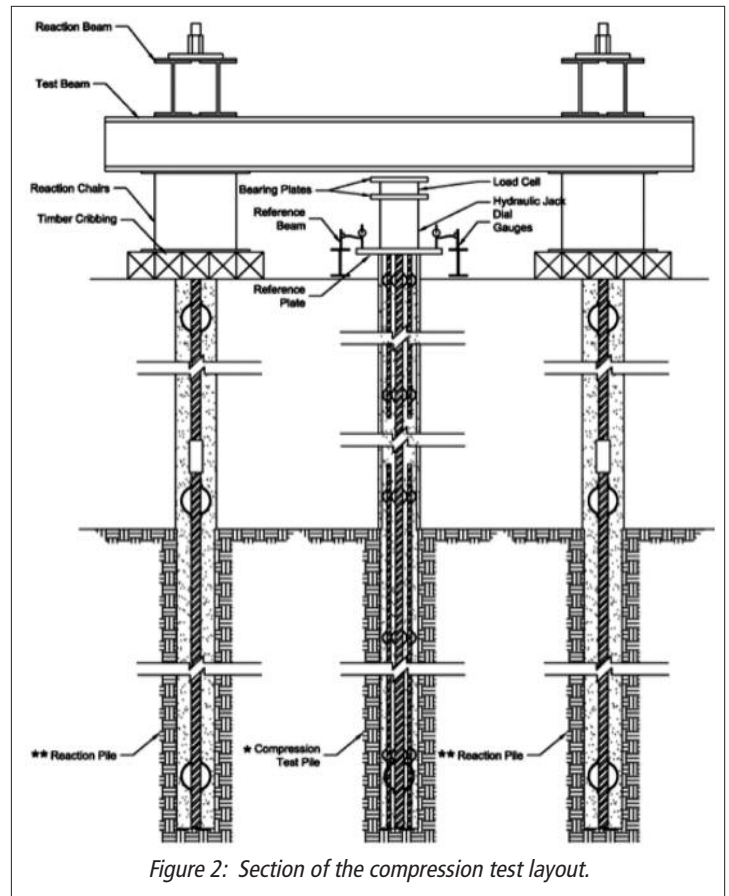

Figure 2: Section of the compression test layout.
Figure 2 shows a cross-section of the test pile arrangement which consisted of four (4) reaction piles and the test pile in the middle. Photos 4 thru 9 show drilling of the test pile and the reaction piles, setting up the test beams and the final test pile setup. Note that the test pile was drilled with a low headroom drill rig (DK-525) to provide drill rates for the casing to simulate the low headroom conditions anticipated for the production piles inside the buildings. The reaction piles were drilled with a Casagrande C-8 drill rig.